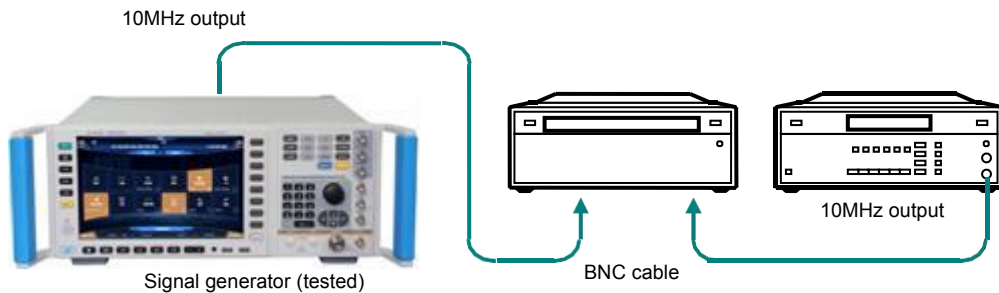

Fig.7.3 Internal Time Base Aging Rate Test
Step 1. Power on and reset it, and warm it up for at least 30 minutes. Step 2. Connect the device as shown in Fig.7.3.